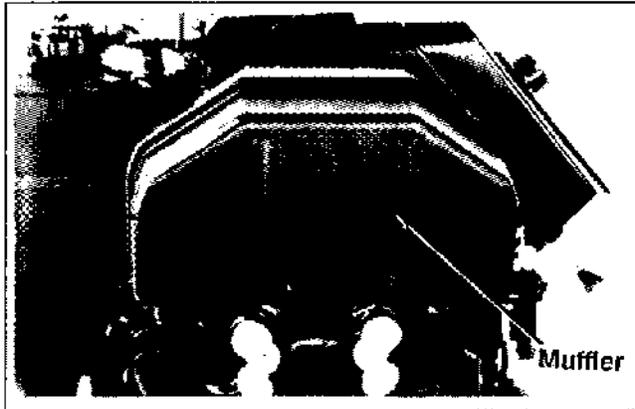

Figure 11-51. Installing Muffler.
1. Install the gasket, muffler, and hex flange nuts to the exhaust port studs. Leave the nuts slightly loose. See Figure 11-51.